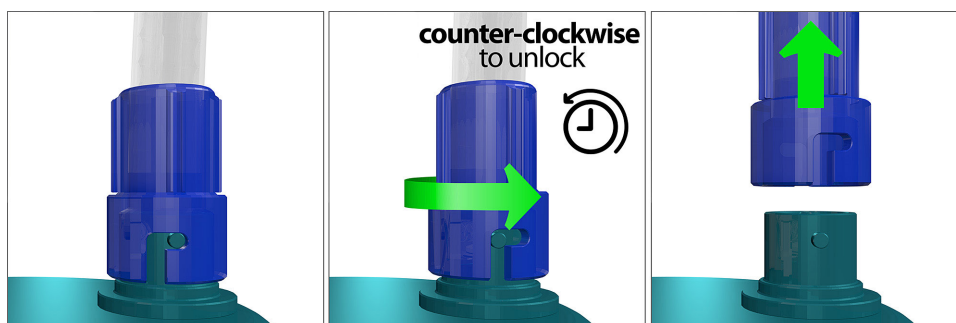

Figure 18
3. Grasp the blue Twist N' Connect™ end of the tubing attached to the canister. Gently twist counterclockwise and pull up to remove tubing from canister (**Figure 18**).